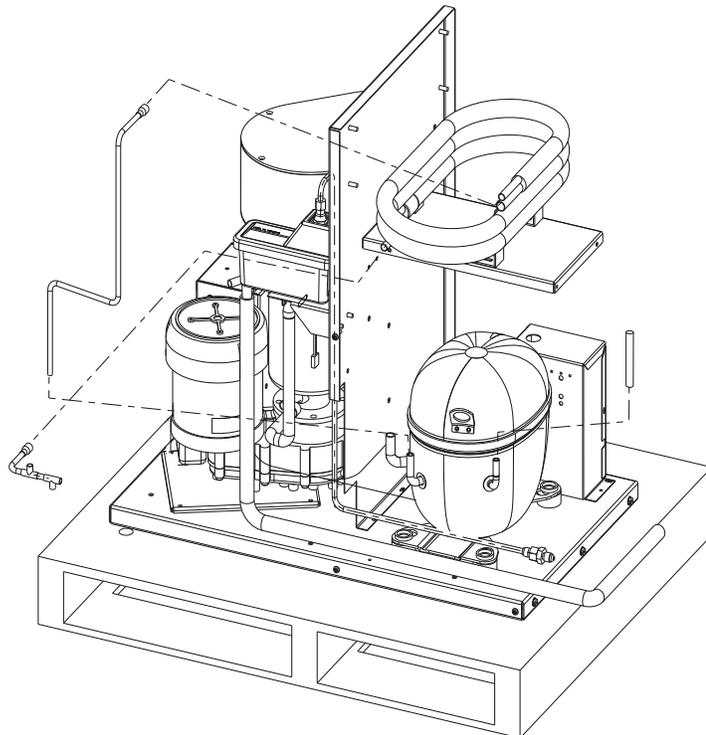

Figure 5. Connection of Process, Discharge Tube and Liquid line
7. Release the Nitrogen from the Compressor. Connect the Process Tube, Discharge tube and Liquid line as shown in Figure 5.